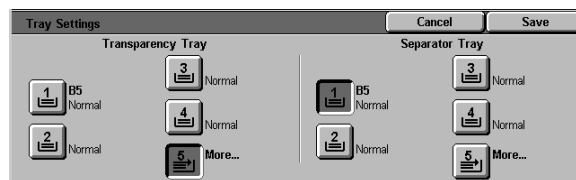

Figure 18: Separator Tray screen
- Under Separator Tray (Figure 18), select the paper tray to use as a source for the separators.